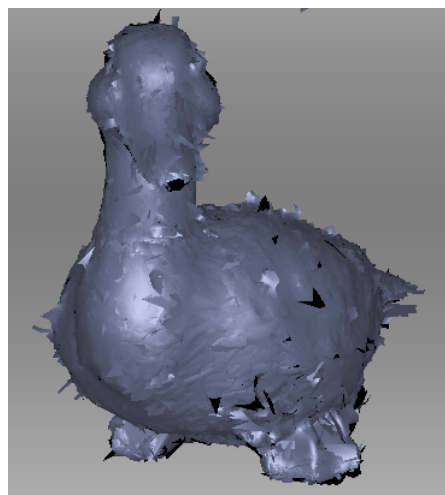

Figure 73: Alignment result.
3. Click *Align*. The result should be as *Figure 73* depicts. If you are dissatisfied with this result, click  and follow the recommendations in *Manual Rigid Alignment Using Point Specification*.